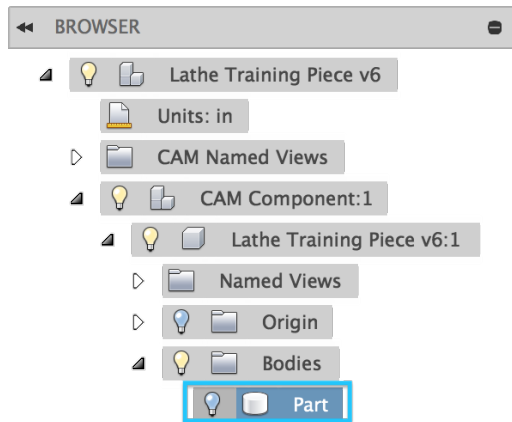

FIGURE 1.34: TURNING OFF THE VISIBILITY FOR THE PART BODY.
- Turn off the lightbulb next to "Part" in the Project Browser, Figure 1.34.